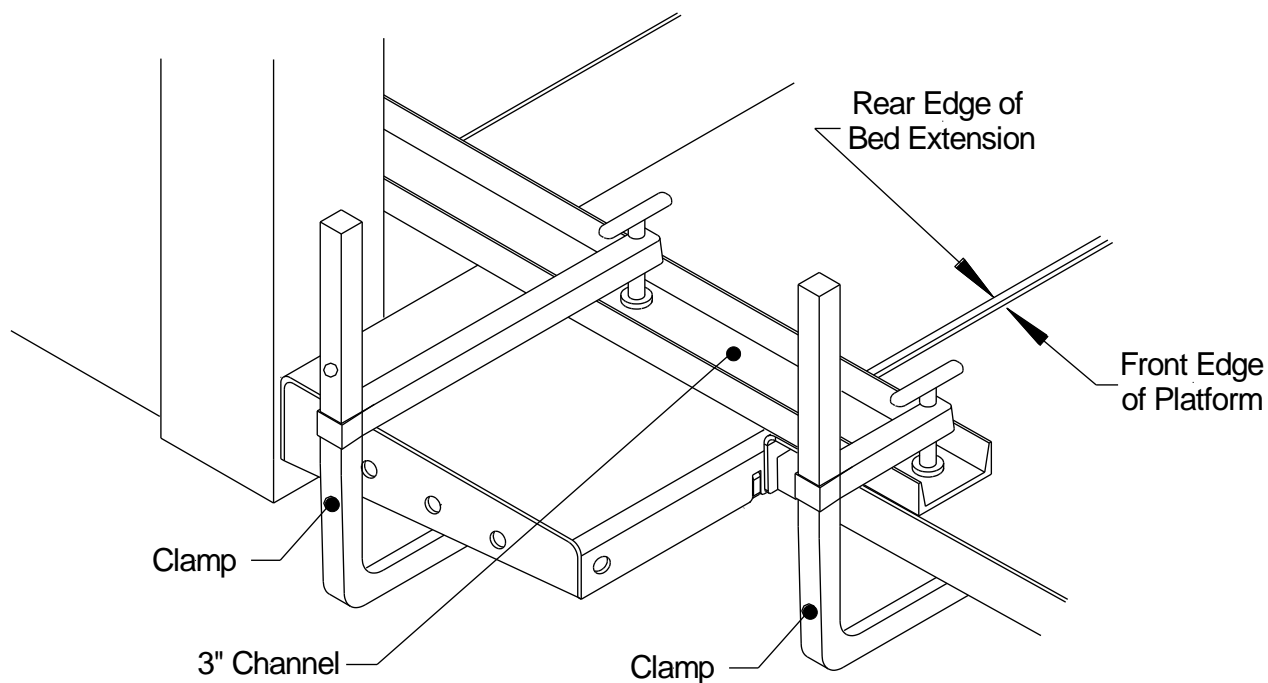

Fig.17
- 1b. **Clamp Platform:** Clamp 3" channels over the bed extension and platform on the street side and curbs side of the bed extension so the relationship between the bed extension and platform is locked and maintained throughout the installation procedure, **Fig.17**.